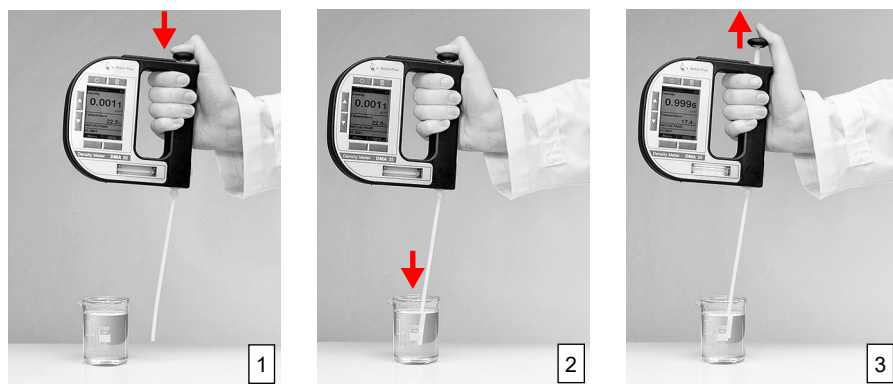

Fig. 7: Filling sample using the filling tube
1. Press down the pump lever as far as it will go (see fig. 7).